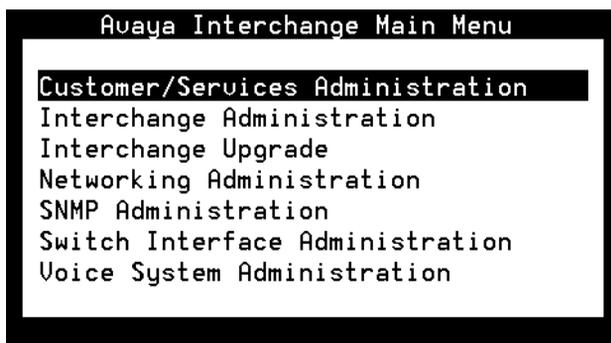

Figure 2-1. Avaya Interchange Main Menu
1. Start at the Avaya Interchange Main Menu (Figure 2-1).
1. Start at the Avaya Interchange Menu (Figure 2-1) and select